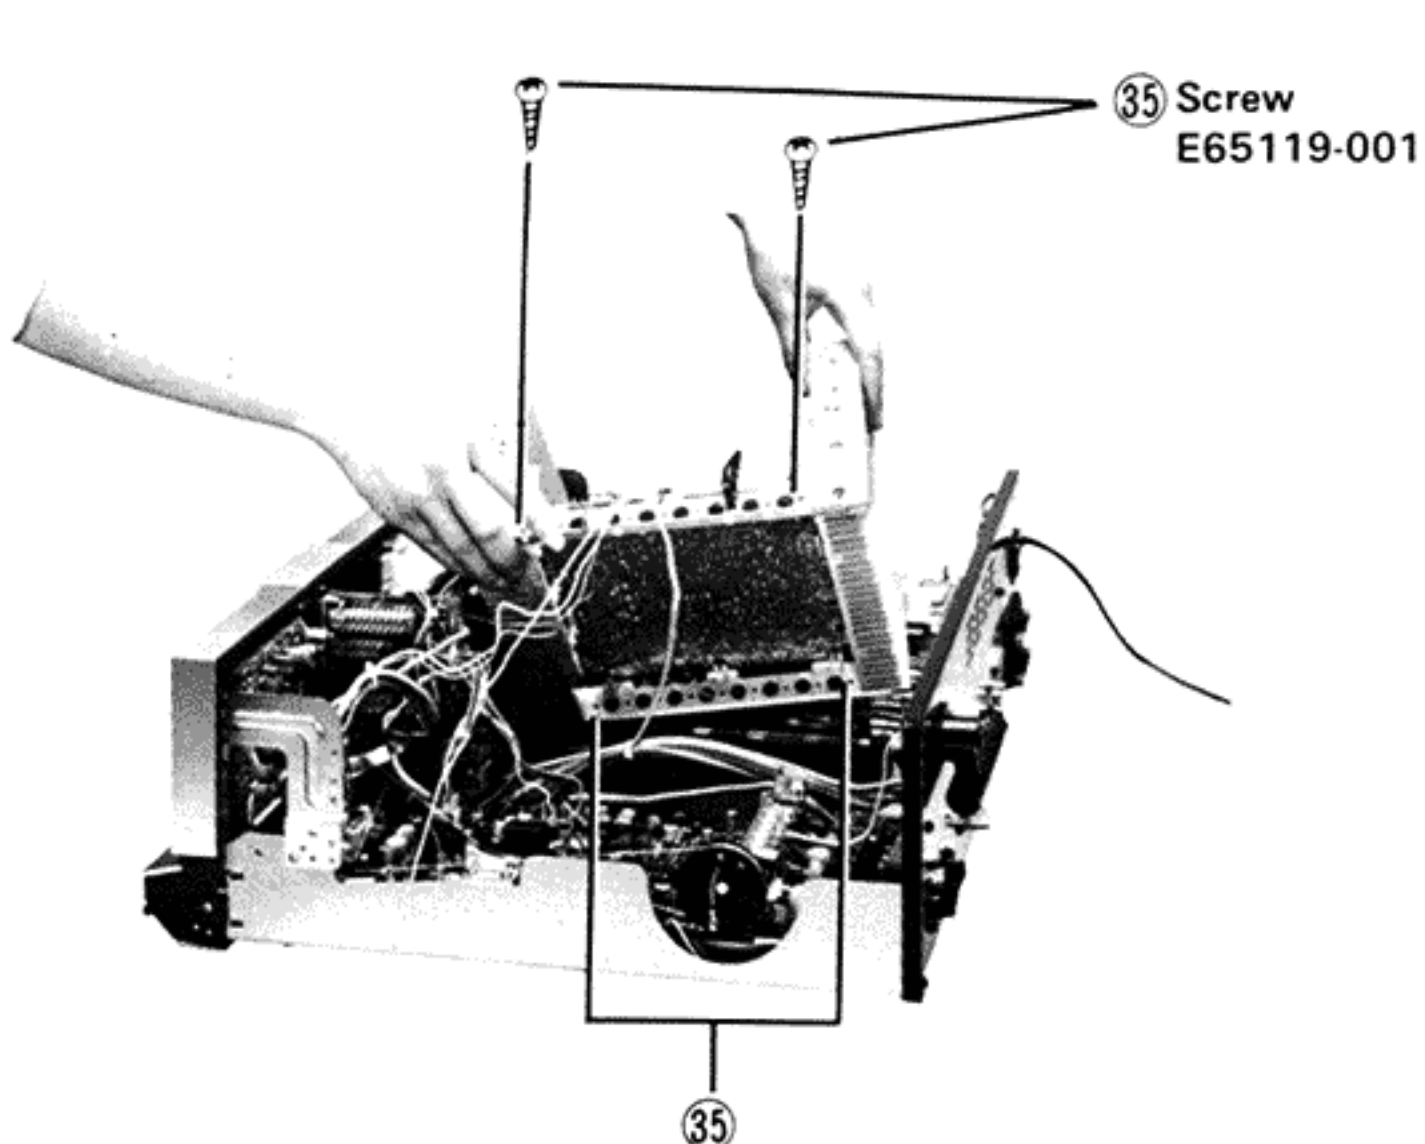

Fig. 8
3. Carefully remove TAP-273B with its heat sinks in the manner shown in Fig. 8